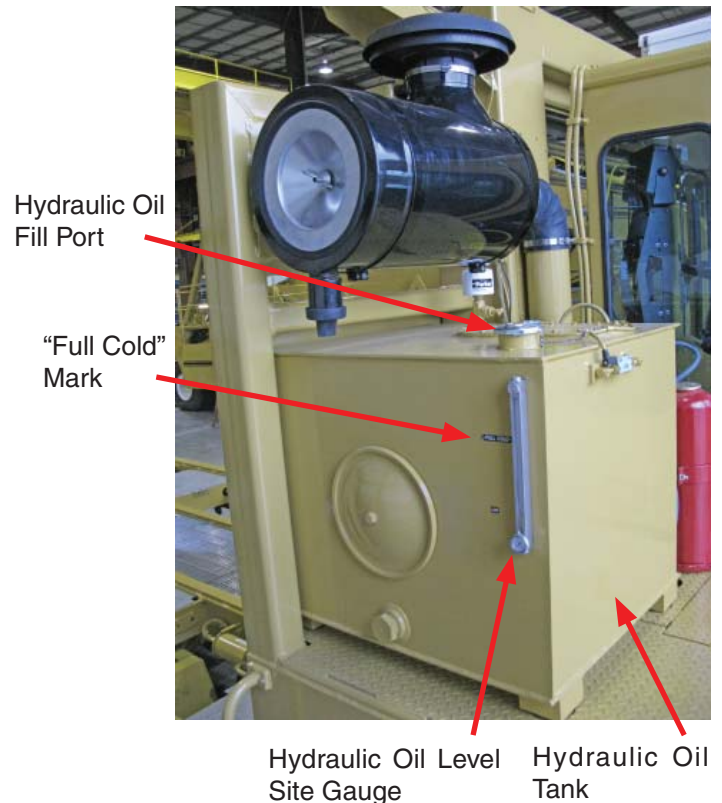

Figure 18 - Hydraulic Tank
4. If the oil level is at the "Low" mark, add approved hydraulic oil (See Figure 18) to return the oil level to the "Full Cold" mark. Fill the tank at the fill port located on the top of the tank.